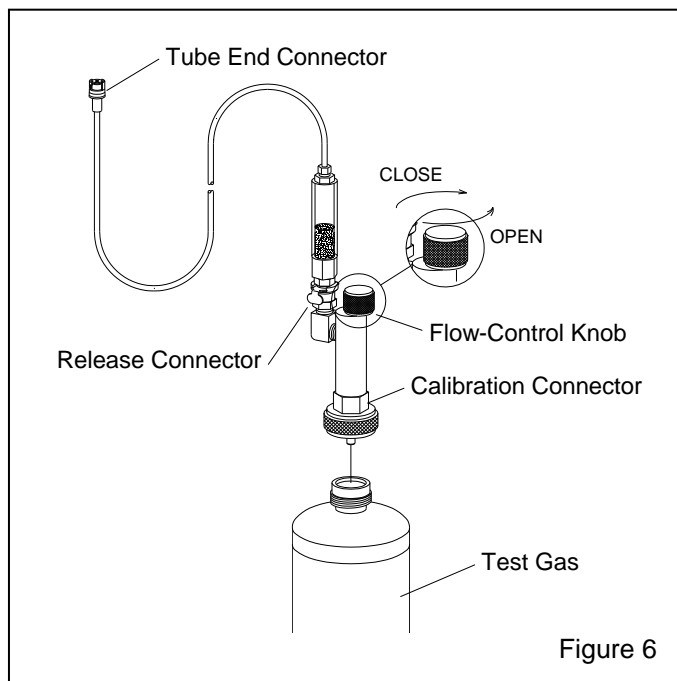

Figure 6
4.4.6 Make sure the flow-control knob is turned fully clockwise to the "OFF" position. Refer to Figure 6.